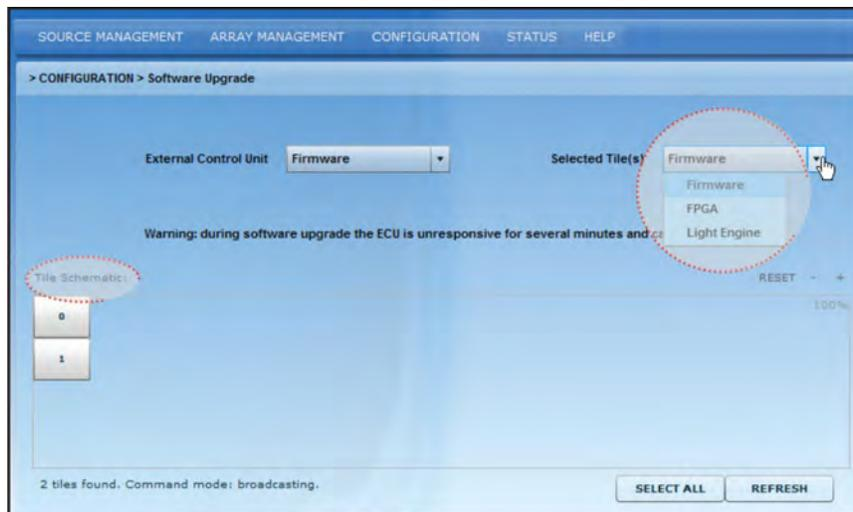

Figure 3-35 Upgrading Selected Tile(s)
2. Through the Software Upgrade screen (Figure 3-35) users can choose to upgrade the software or hardware of the ECU or a group of selected Christie MicroTiles.
between **FPGA** from the **Selected Tile(s)** drop-down menu (Figure 3-35). **NOTICE! DO NOT initiate a light engine upgrade unless an upgrade is posted at www.microtiles.com. Light engine upgrades take approximately 15 minutes for each tile in the array.**